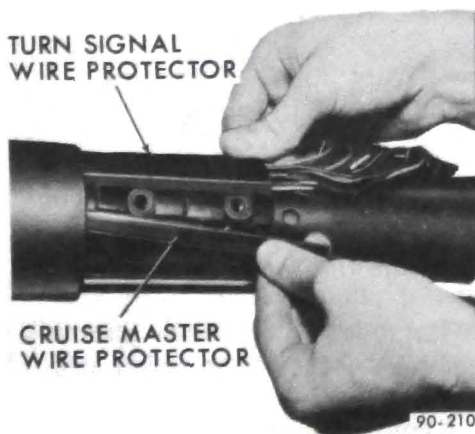

Figure 90-134 - Signal Switch Wire Protector
4. Remove signal switch wire protector. See Figure 90-134.